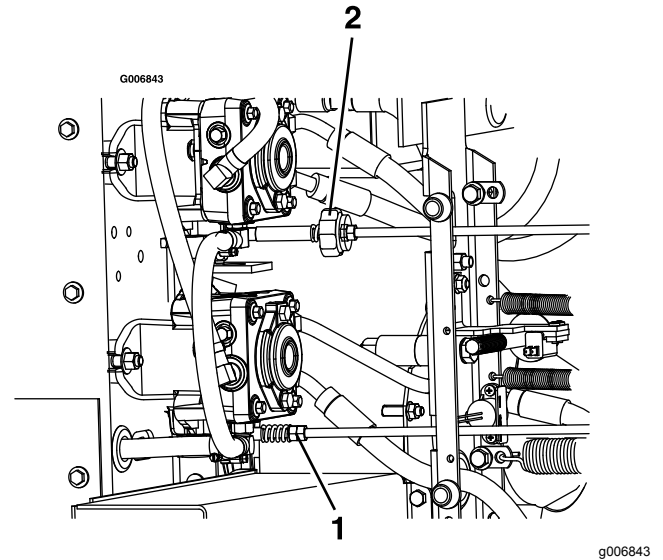

Figure 55
9. To obtain the NEUTRAL position, adjust the left and right pump-control-rod linkages that connect the steering control to the pump-control arms until the wheels stop or creep slightly in reverse (Figure 55).
11. Adjust the right pump linkage by using a wrench to turn the double nuts on the assembly (Figure 55)